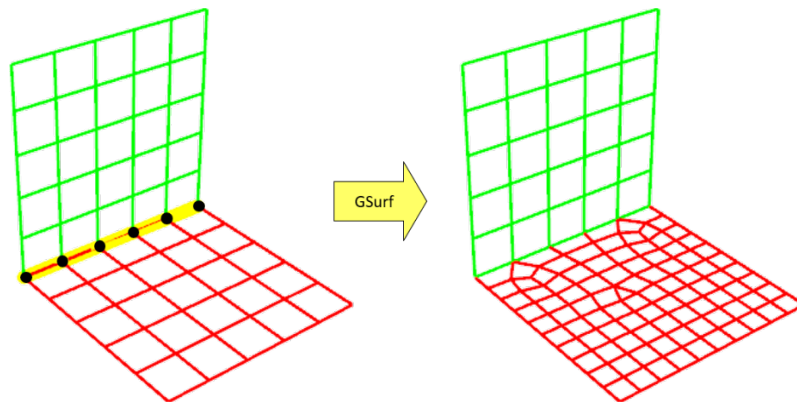

Figure 22: Specifying hard edges.
Hard edges are edges that are preserved in a mesh during the remeshing process. Consider an example in Figure 22 (left), which shows two conformal surface meshes. If one of the meshes (for instance, the red mesh) is changed (for example, refined) while the other is unmodified, the conformity of the meshes will be broken. **GSurf** offers a way to remesh a specific or all meshes while preserving conformity along mesh edges. This can be done by creating hard edges.
1. Use *Rhino's* **\_DupBorder** command on the red mesh, which will duplicate the mesh border (i.e., will create a curve connecting only nodes on the mesh boundary). Delete unnecessary segments of the curve (use the **\_SubCrv** command) leaving only those segments that connect to the green mesh (as shown in Figure 22, left).